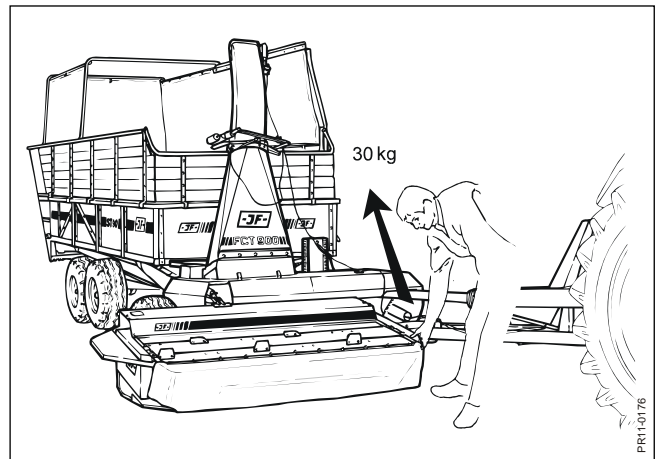

Fig. 3-17
**Fig. 3-17** unit is approx. 30 kg.
**Fig. 3-17** unit is approx. 0 kg. (See also separate manual).